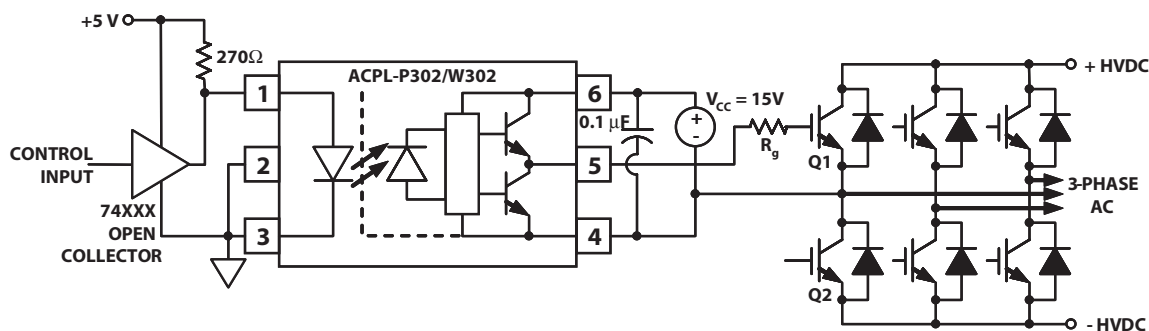

Figure 17. Recommended LED Drive and Application Circuit for ACPL-P302/W302
To keep the IGBT rmy o , the ACPL-P302/W302 has a very low maximum  $V_{OL}$  specification of 1.0 V. Minimizing  $R_g$  and the lead inductance from the ACPL-P302/W302 to the IGBT gate and emitter (possibly by mounting the ACPL-P302/W302 on a small PC board directly above the IGBT) can eliminate the need for negative IGBT gate drive in many applications as shown in Figure 17. Care should be taken with such a PC board design to avoid routing the IGBT collector or emitter traces close to the ACPL-P302/W302 input as this can result in unwanted coupling of transient signals into the input of ACPL-P302/W302 and degrade performance. (If the IGBT drain must be routed near the ACPL-P302/W302 input, then the LED should be reverse biased when in the o state, to prevent the transient signals coupled from the IGBT drain from turning on the ACPL-P302/W302.
Step 1: Calculate  $R_g$  minimum from the  $I_{OL}$  peak specification. The IGBT and  $R_g$  in Figure 17 can be analyzed as a simple RC circuit with a voltage supplied by the ACPL-P302/W302.
where  $K_{ICC} \cdot Q_g \cdot f$  is the increase in  $I_{CC}$  due to switching and  $K_{ICC}$  is a constant of 0.001 mA/(nC\*kHz). For the circuit in Figure 17 with  $I_F$  (worst case) = 10 mA,  $R_g = 57.5 \Omega$ , Max Duty Cycle = 80%,  $Q_g = 100 \text{ nC}$ ,  $f = 20 \text{ kHz}$  and  $T_{AMAX} = 85^\circ\text{C}$ :
The open collector drive circuit does not keep the LED on during a + to - transition. The current flowing through  $C_{LEDN}$  to the LED, and it is not recommended for ultra high CMRL performance. The recommended circuit (Figure 23), which like the recommended approach (Figure 17), does achieve ultra high CMR by keeping the LED in the on state.